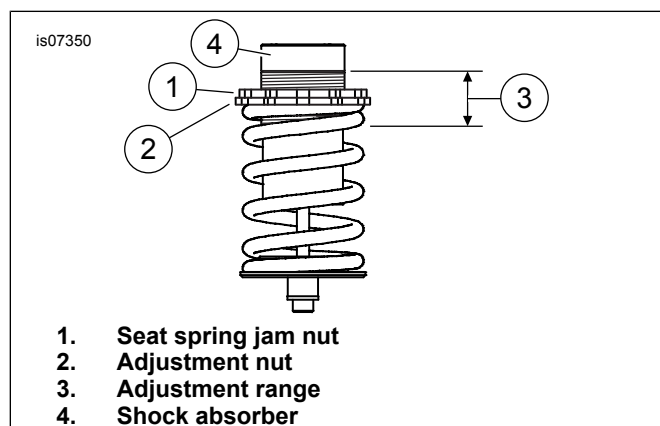

Figure 4. Seat Adjustment
- See Figure 4. Range of adjustment (3) must be kept within 17.7–27.7 mm (0.7–1.1 in) from the top of the shock absorber (4, part of the seat spring assembly). Settings outside this range may result in failure of seat suspension components.
1. Loosen the seat spring jam nut (1).
2. Rotate the adjustment nut (2) clockwise to compensate for a heavier rider, or counterclockwise for a lighter rider. Each full rotation adjusts for approximately 5.7 kg (12.5 lb) of rider weight.